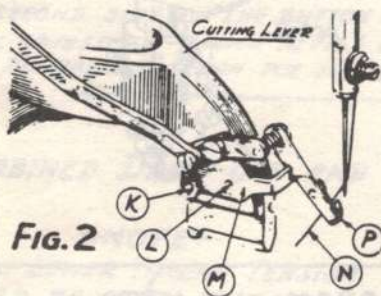

Fig. 2
THE PICK-UP HOOK (P) FIG. 2, DIPS WITH THE CUTTING LEVER AND GRASPS THE UPPER THREAD AND HOLDS IT OUT OF THE WAY FOR THE NEXT BUTTON HOLE. - THE EXTENT OF THE DIP DOWNWARD SO THAT IT WILL NOT MISS THE THREAD (N) IS ADJUSTED BY LOOSENING THE SCREW (K) AND SWINGING THE PLATE (M) UPON ITS FULCRUM PIN (L) AS DESIRED.